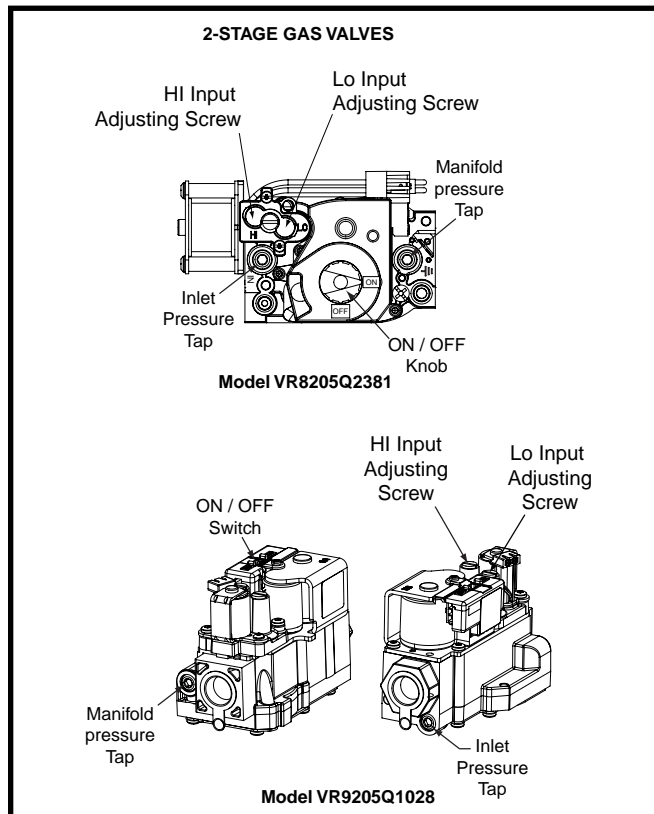

Figure 10. HI & LO Input Adjusting Screws
**Gas Valve** - The gas valve controls the flow of gas to the burners in both low and high fire. When the gas valve is energized it automatically opens and regulates the gas pressure in the manifold. See Figure 10 below.